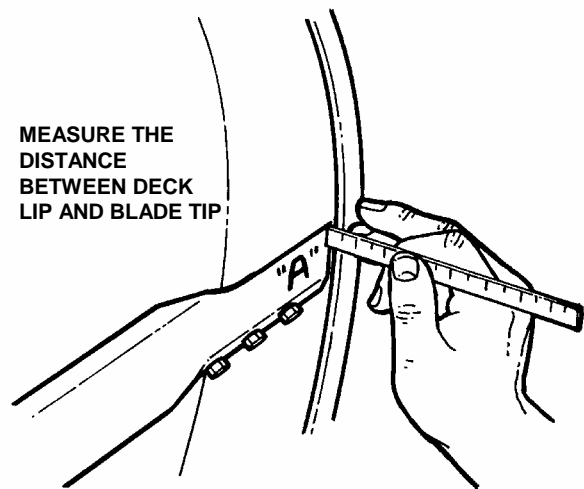

FIGURE 4.5
4. Measure the distance between deck lip and blade tip. Note the measurement. See Figure 4.5.